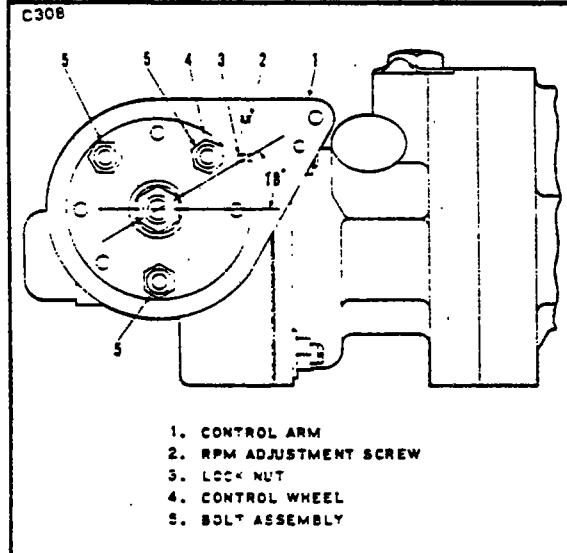

Figure 8-5. Propeller Governor (PA-28-235)
8-16. RIGGING AND ADJUSTMENT OF PROPELLER GOVERNOR. (PA-28-235.) (Refer to Figure 8-5.)
5. Ascertain that the governor control arm is adjusted to the proper angle on the control wheel (4) as shown in Figure 8-5.